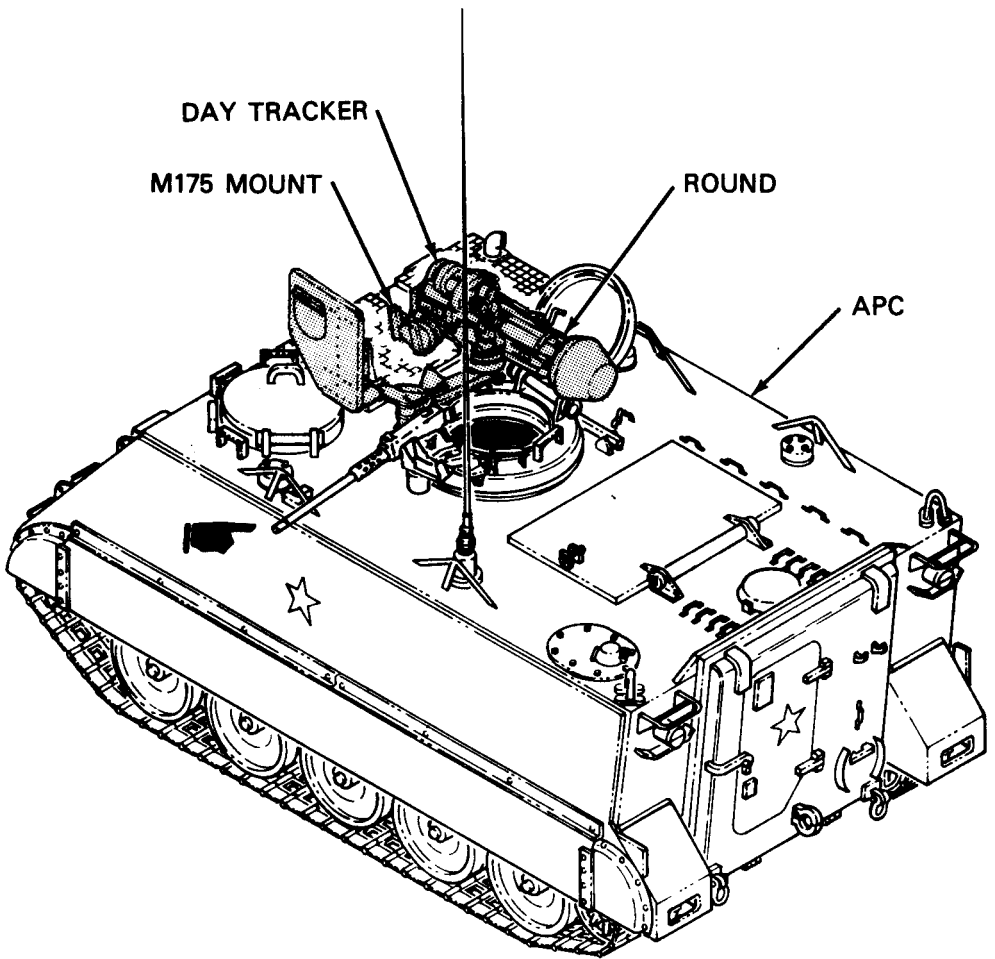

Figure 1-2
a. The DRAGON (figure 1-1) is a light weight recoilless, antitank assault weapon. It is capable of defeating enemy armor, fortified bunkers, concrete gun emplacements, and other hardened targets on the battlefield. It can be operated by the individual soldier. When employed with the Mechanized Infantry, it can be mounted and fired from the Armored Personnel Carrier (APC) or machine gun tripod as shown in figures 1-2 and 1-3.